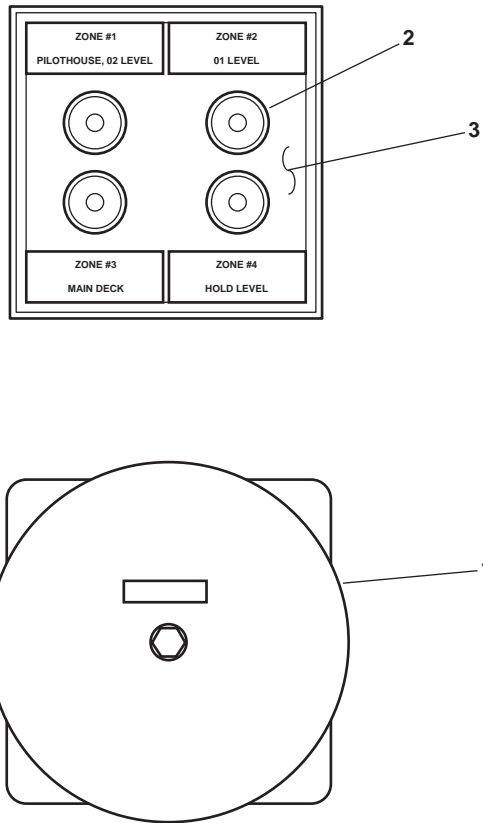

Figure 3. Remote Indicating Panel and Alarm Bell
- c. The audible alarm bell sounds in the pilothouse (figure 3, item 1) and the proper zone indicator (figure 3, item 2) illuminates on the remote indicating panel (figure 3, item 3).
- b. The audible alarm bell (figure 3, item 1) has silenced in the pilothouse.
- b. The audible alarm bell (figure 3, item 1) in the pilothouse sounds and all zone indicators (figure 3, item 2) illuminate on the remote indicating panel (figure 3, item 3).
- b. The audible alarm bell sounds in the pilothouse (figure 3, item 1) and the proper zone indicator (figure 3, item 2) illuminates on the remote indicating panel (figure 3, item 3).
- b. The audible alarm bell (figure 3, item 1) has silenced in the pilothouse
- b. The audible alarm bell (figure 3, item 1) in the pilothouse sounds and all zone indicators (figure 3, item 2) illuminate on the remote indicating panel (figure 3, item 3)